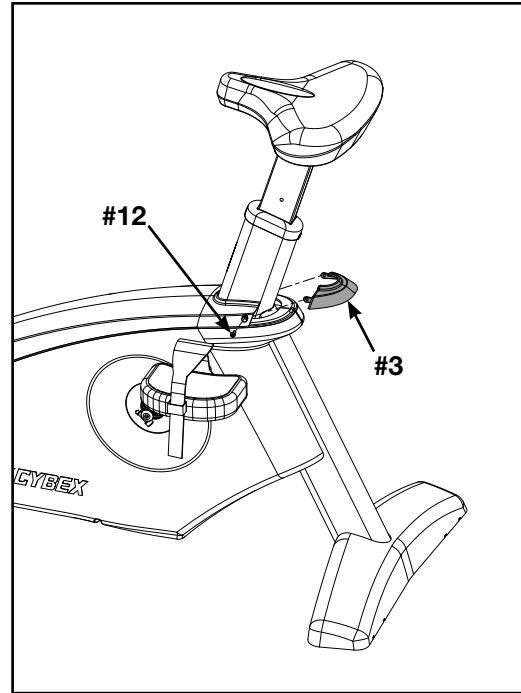

Figure 7
- A. Locate and place the back cap (#3) into the top cap as shown in Figure 7. **NOTE:** Ensure the back cap is fully inserted into the top cap.
- B. Using a Phillips screwdriver, secure with two screws 8-16 x .50 (#12). See Figure 7.